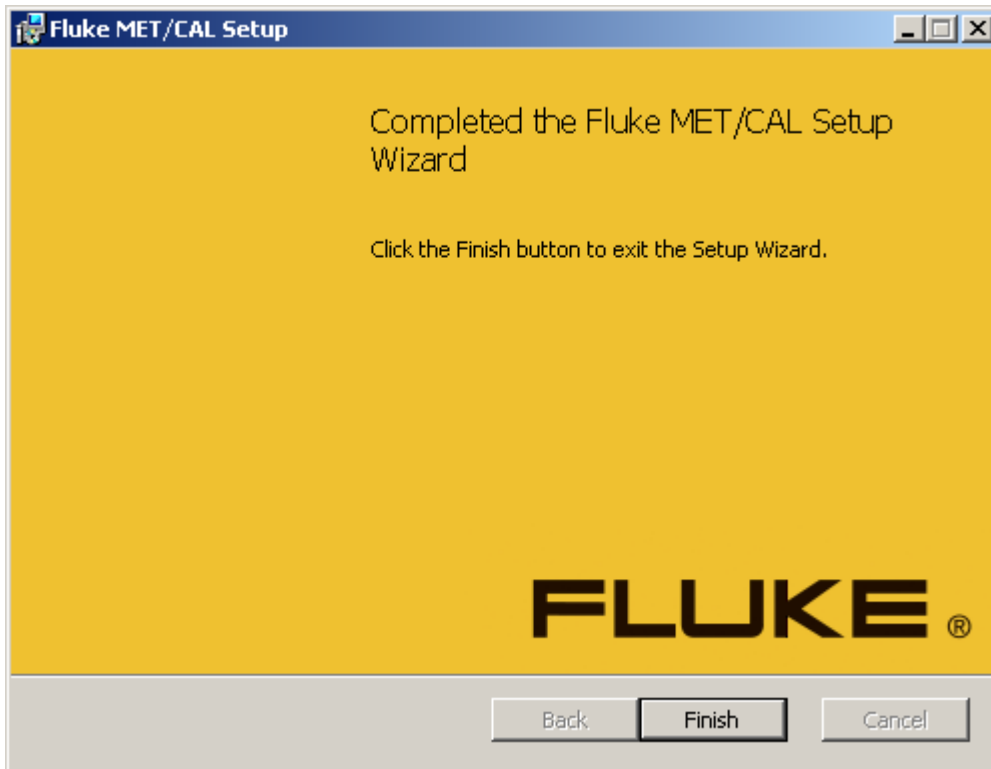

Figure 12. MET/CAL Installation Complete
13. When you upgrade MET/CAL, the metcal.ini file located in the Windows directory is automatically transferred to the %Programdata% path defined in Table 2. After the MET/CAL files have been installed on the PC, the Installation Complete dialog displays, see Figure 12.